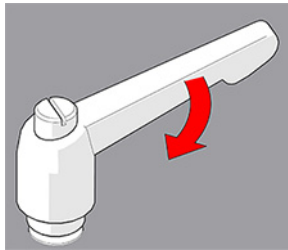

Figure 3-47 Tighten handle
3. Release the lever and utilize the new tightening position (see Figure 3-47 on page 71).